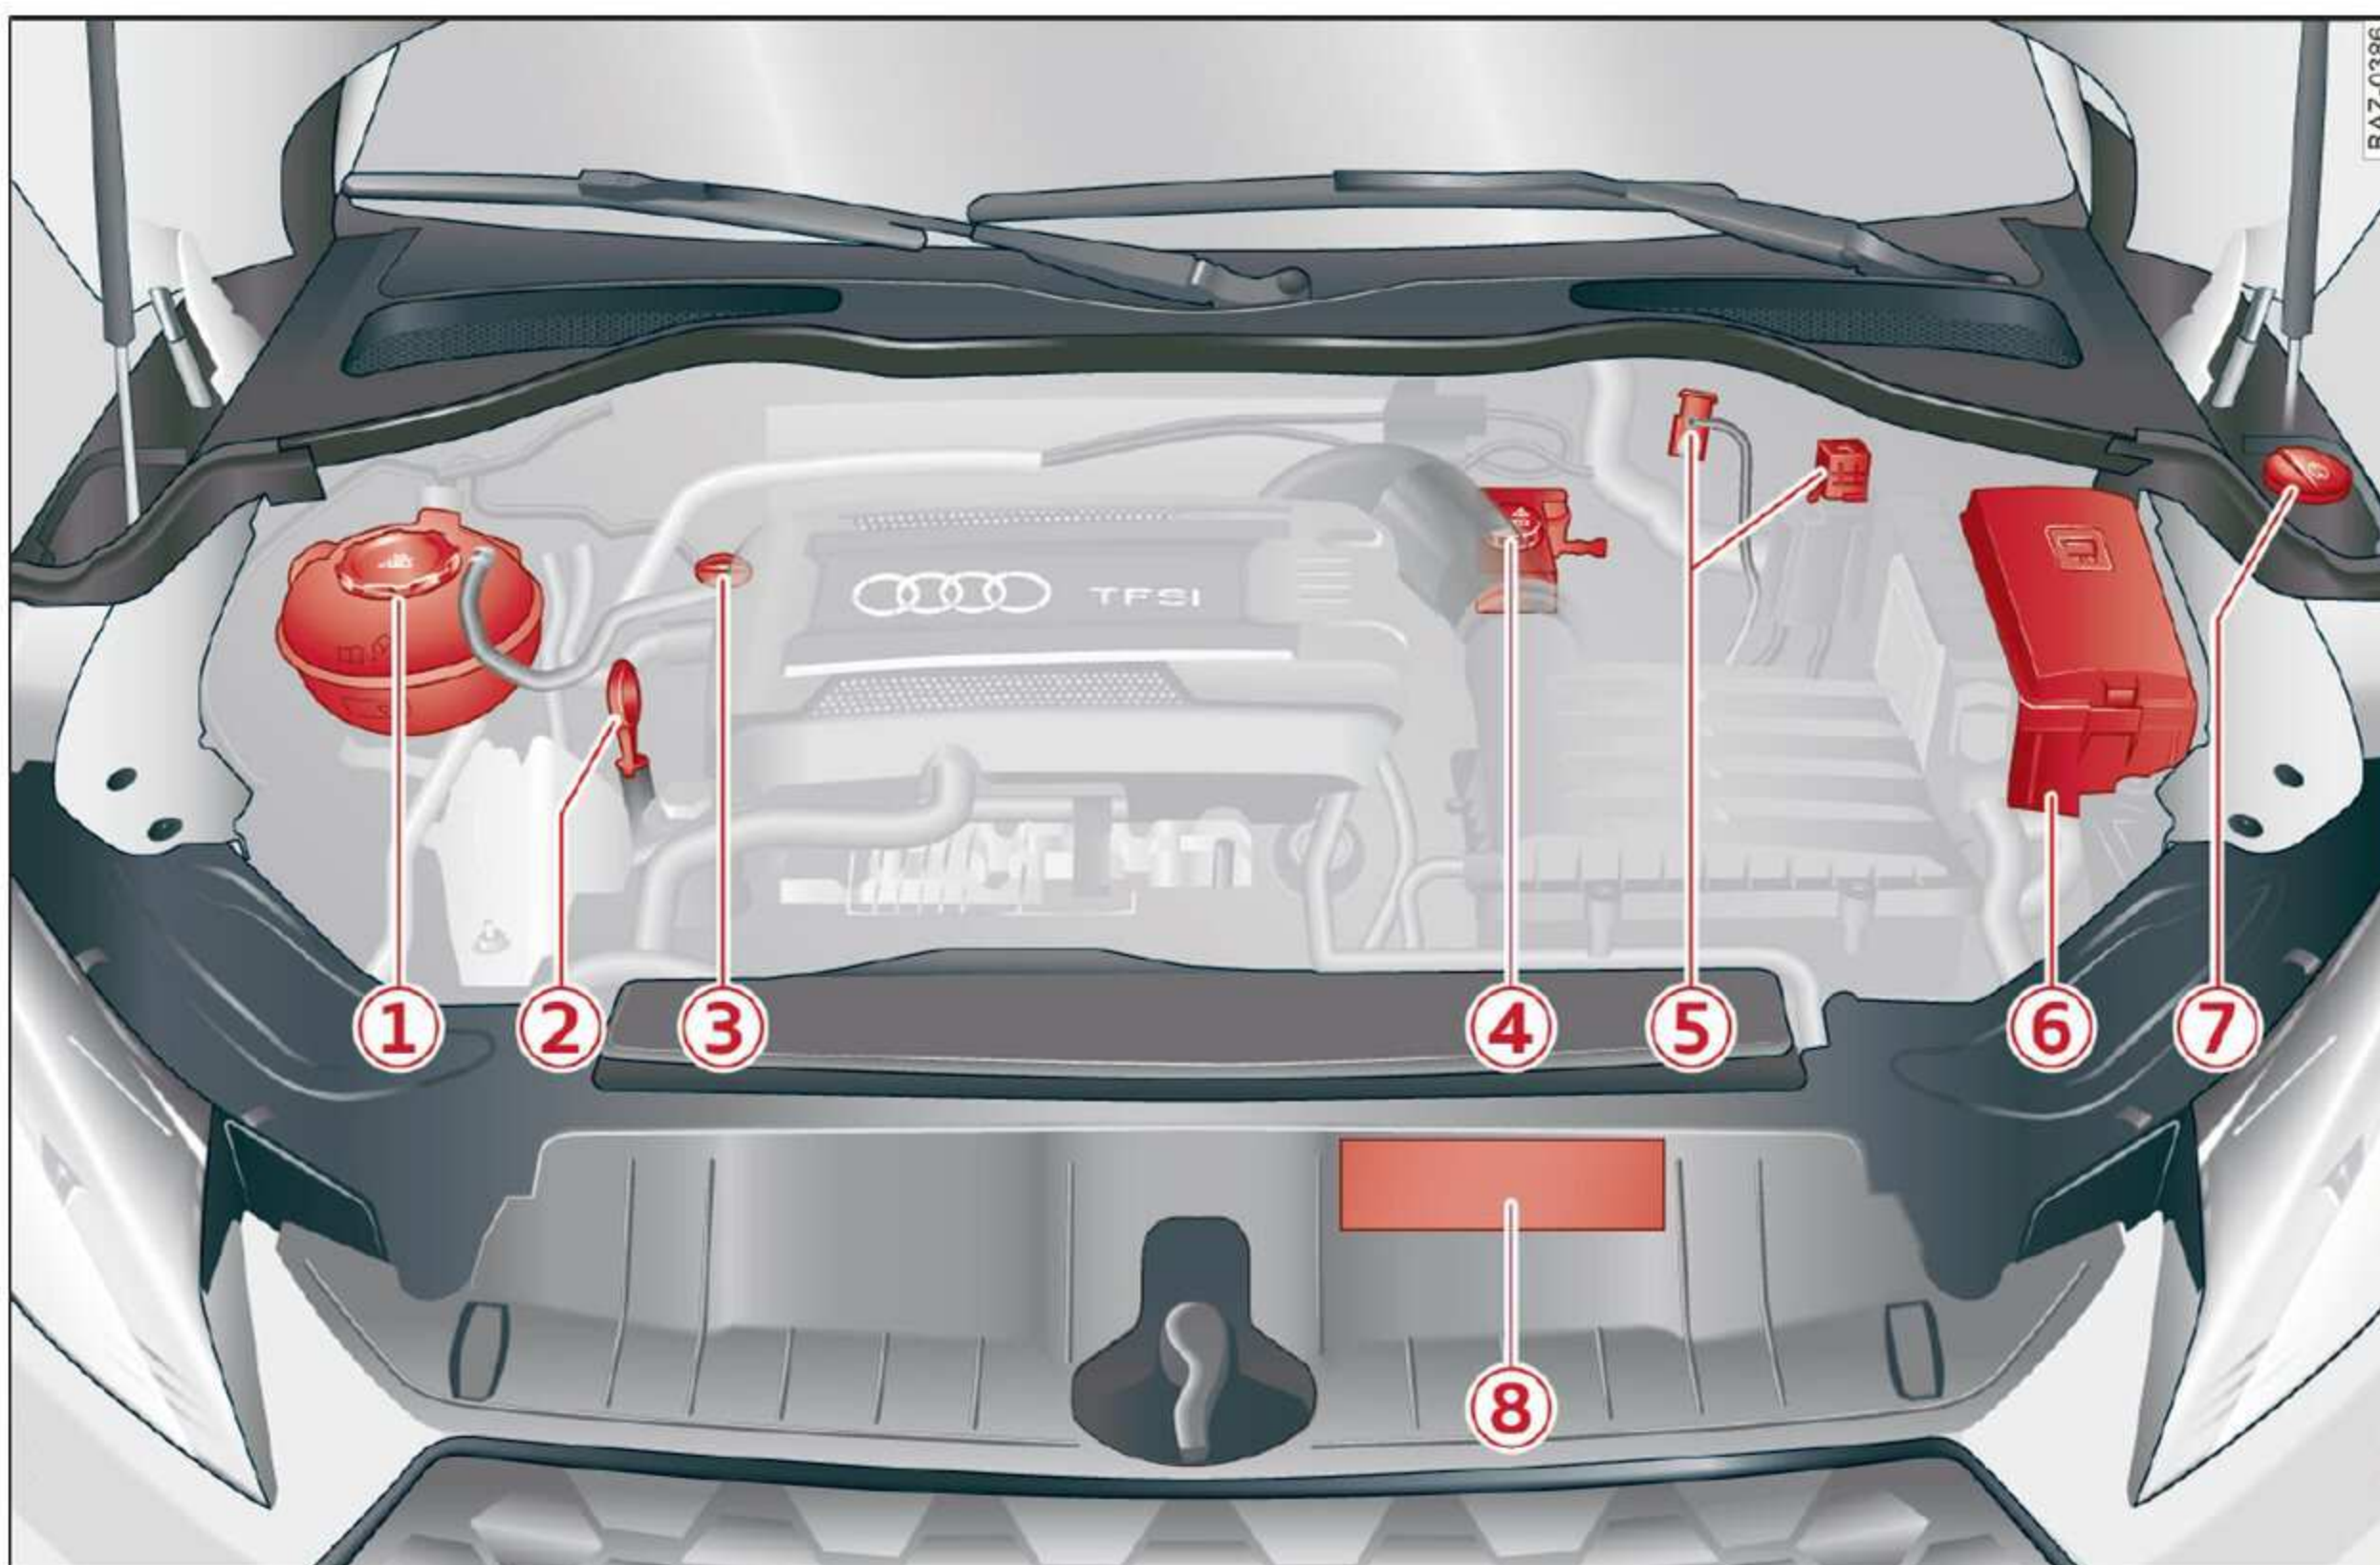

Fig. 174 Typical layout of the reservoir and the engine oil filler opening
If you need to add engine oil, use an oil that is listed on the sticker. The sticker is located at the front of the engine compartment ⇒ page 230, fig. 174.
- ▶ Remove the oil dipstick ⇒ *page 230, fig. 174*, wipe it off with a clean cloth and insert it all the way in again.